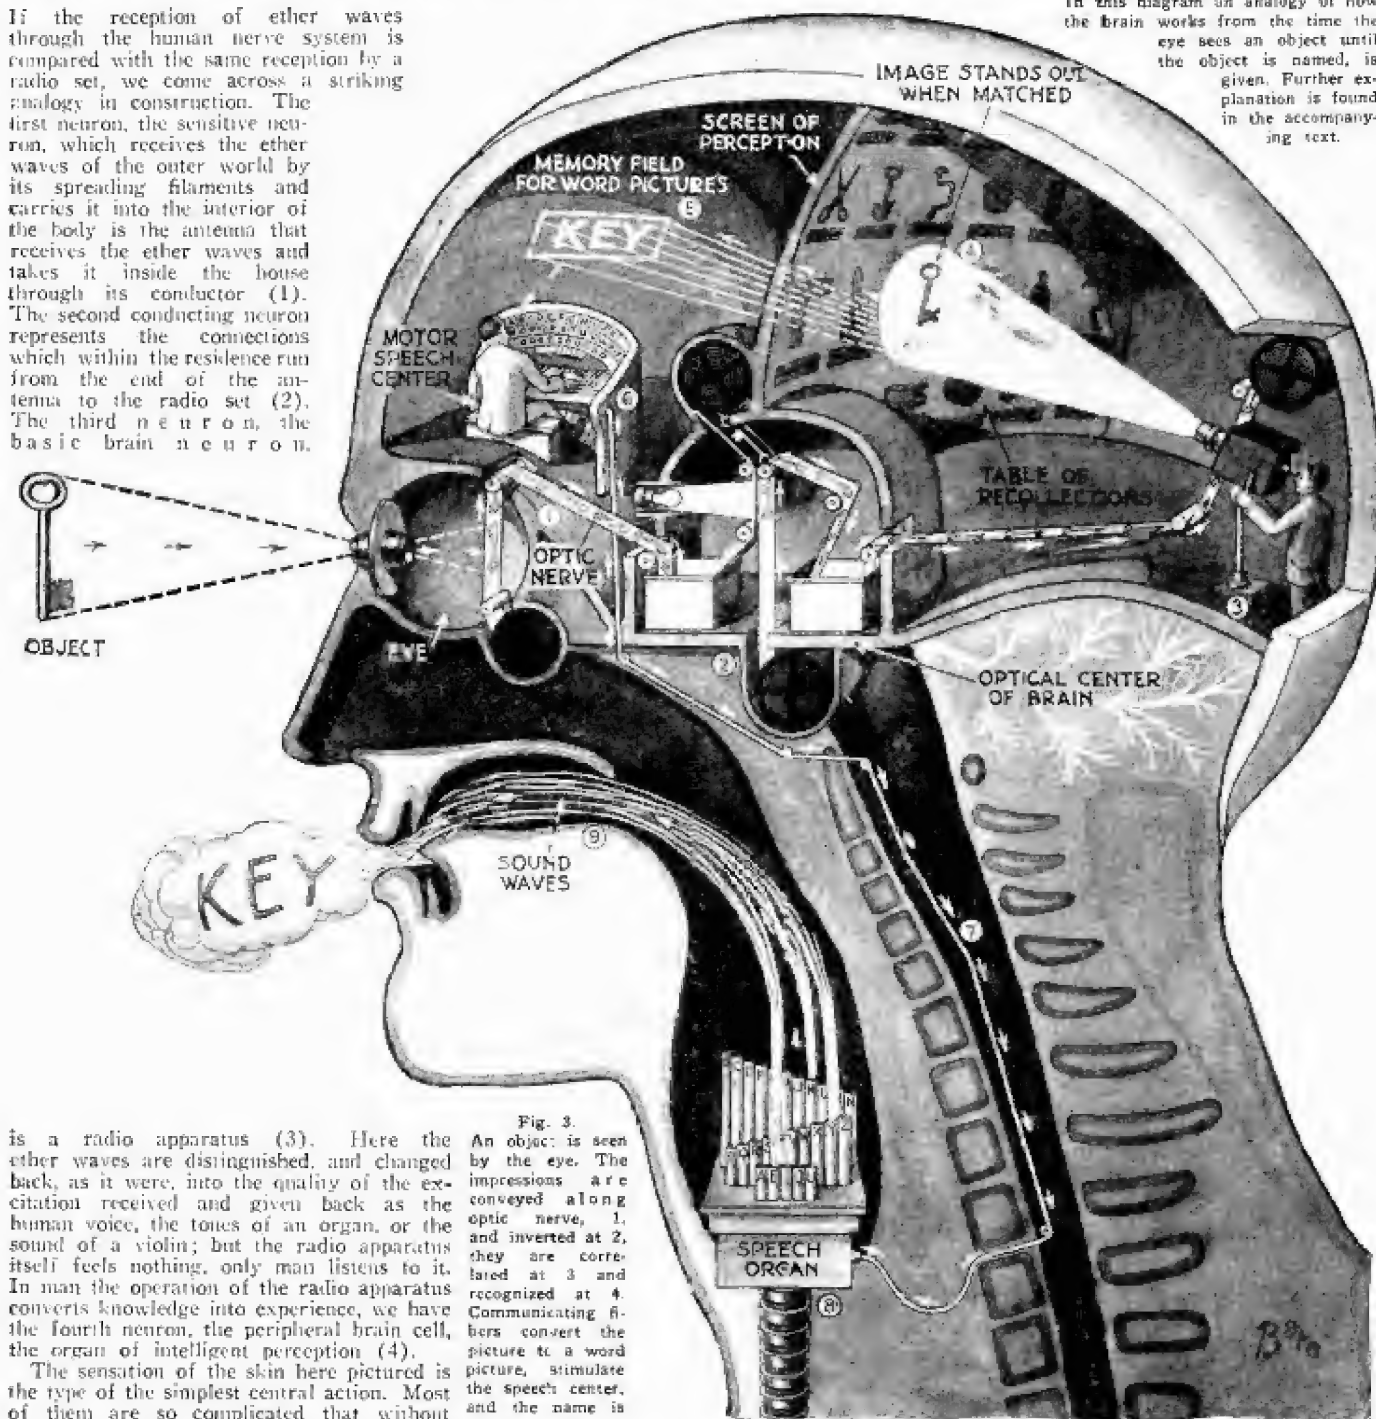

Fig. 3.
One contact system which is still easy to understand, but involves over eight different neurons, is one of our intellectual actions which is most frequently used, where we give a name to an object which we see. In Fig. 3, the progress is shown in mechanical reproduction in the picture. We see a key and say: "key!" Now in this sixth of a second what has happened? First the image of the key reduced by the lens of our eye is thrown upon the camera obscura of our eye-ball and here is thrown upon the light sensitive lining of the retina. Under the influence of light the retina is changed and apparently sets free various chemical combinations which act as excitants of the nerve cells here present. This excitation in some way unknown to us is changed, and is communi-
It will be seen that in Fig. 3 the human reception of an image is maintained and the optic nerve is shown as a picture film, which in the back of the eye-ball is illuminated and then goes on to the optical center of the brain. In this center (2) the picture is developed and qualified: here it appears as a picture of a key. The picture now seen exactly as in the case of a skin sensation, is passed over to a neuron that carries it